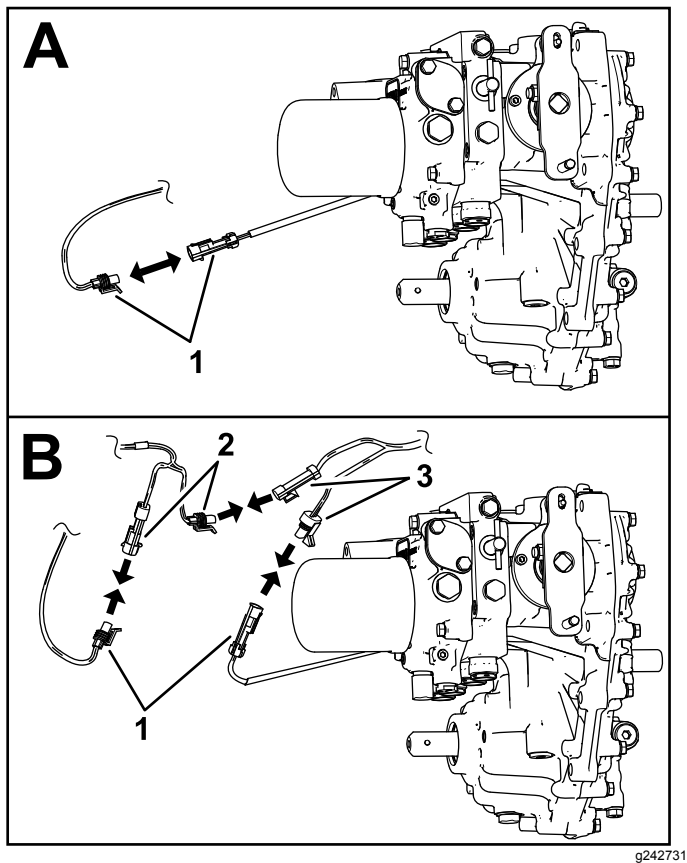
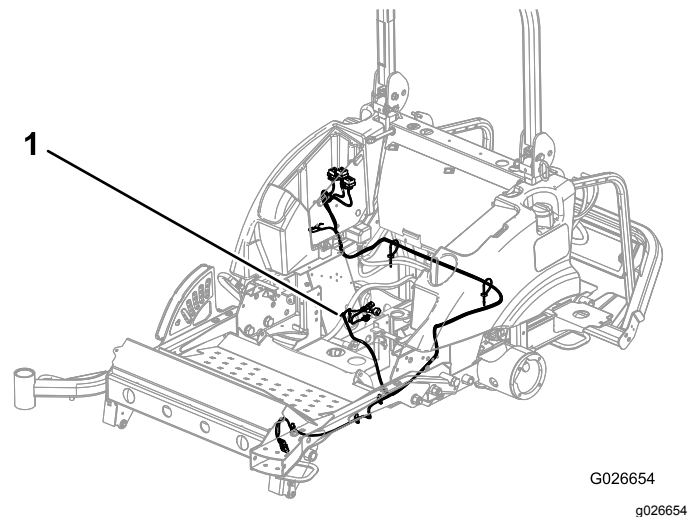

Figure 23
Figure 24
4. Unplug the connectors at the front of the transmission near the oil filter (Figure 23).
5. Route the deck wire harness to the transmission (Figure 24) and plug the deck harness and lift-delay harness into the transmission connectors; refer to B of Figure 23.